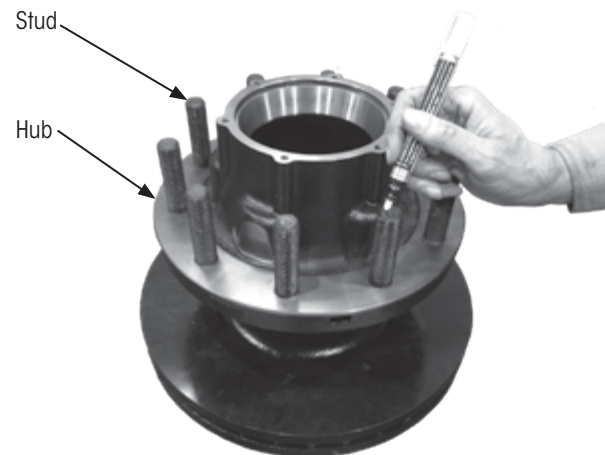

Figure 9: Identifying old studs
- Place** the hub and rotor assembly on a sturdy surface with the studs facing up (Figure 9).